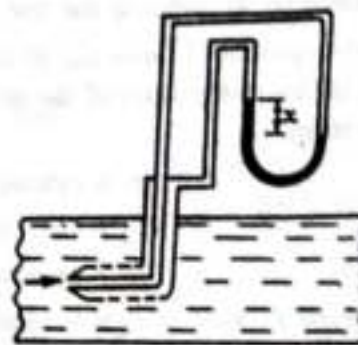

Fig. 6.17
4. Pitot-static tube, which consists of two circular concentric tubes one inside the other with some annular space in between as shown in Fig. 6.17. The outlet of these two tubes are connected to the differential manometer where the difference of pressure head 'h' is measured by knowing the difference of the levels of the manometer liquid say x. Then  $h = x \left[ \frac{S_g}{S_o} - 1 \right]$ .